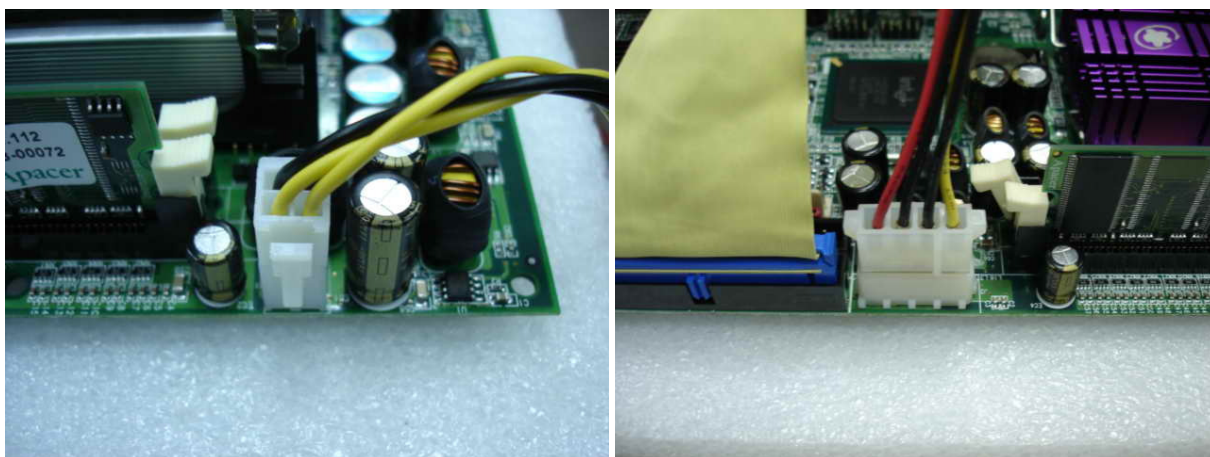

Figure 5-1
ROBO-8712E series requires power drawing from two power connectors (J1 and J2), please connect both power connectors. If J2 isn't connected, it could also cause system failed to boot up. (Figure 5-1)
Step 4: Please check the connection of the 12V Power to CPU supplementary Power Connector properly (J1, and J2), which shows on Figure 5-1.
Step 2: Please connect 12V Power connector to CPU supplementary Power Connector (J1), which shows on Figure 5-1.